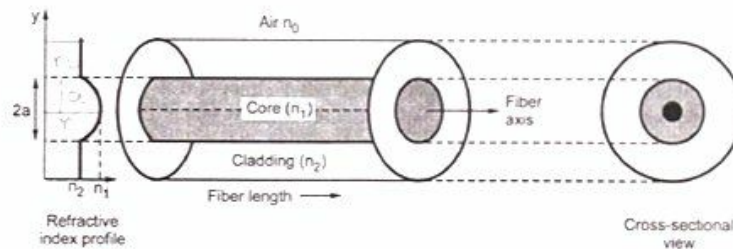

Fig. 1.6.14 Graded index fiber
- In the graded index (GRIN) fiber the refractive index is not uniform within the core, it is highest at the center and decreases smoothly and continuously with distance towards the cladding. The refractive index profile across the core takes the parabolic nature. Fig. 1.6.14 shows refractive index profile of graded index fiber .